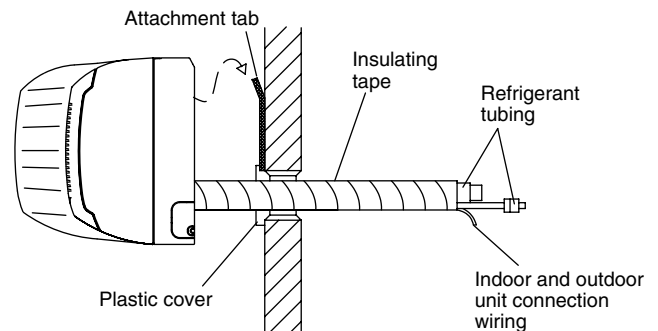

Fig. 3-29
- (1) Shape the refrigerant tubing so that it can easily go through the hole. (Fig. 3-29)